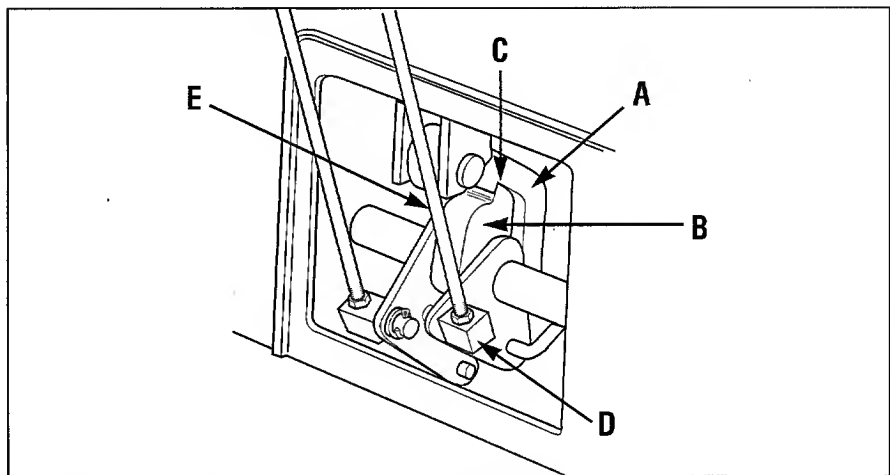

Figure 5-10: Blade Drive Control Lever adjustment.
2. Engage the Operator Presence Control and the Blade Drive Control. Without releasing the controls, look inside the cutout at the rear of the frame and make sure the Operator Presence Control latches (A and B, Fig. 5-10) are fully engaged at point (C). If they are not fully engaged, improper operation or premature wear could result. To adjust, loosen hex nut (D) and shorten length of control rod (E). To avoid over-adjusting, turn rod only 1 to 2 turns per adjustment.